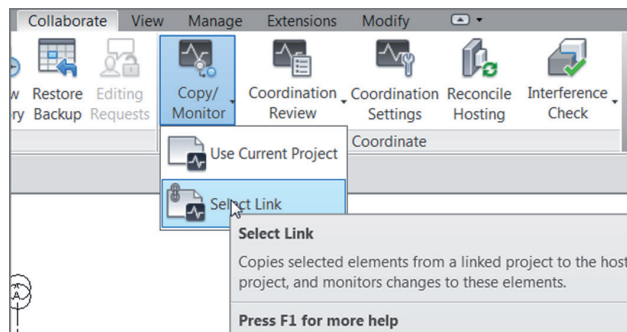

FIGURE BC6.4: The Copy/Monitor button on the Coordinate panel of the Collaborate tab
2. On the Coordinate panel of the Collaborate tab, select Copy/Monitor > Select Link, as shown in Figure BC6.4.